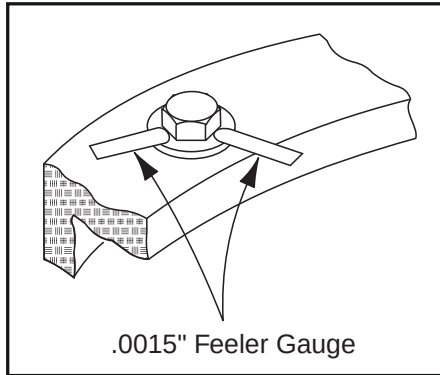

Figure 3-52. Swing Bearing Feeler Gauge Check
12. Tighten bolts to an initial torque of 130 ft-lb (176 Nm) following torque sequence shown in Figure 3-52. Tighten to a final torque of 190 ft-lb (257 Nm) following same sequence.
1. Fully retract boom and elevate to 70 degrees (full elevation). Try and insert a 0.0015" feeler gauge between bolt head and hardened washer at positions shown in Figure 3-52., Swing Bearing Feeler Gauge Check.
3. Try and insert a 0.0015" feeler gauge between bolt head and hardened washer at position indicated by arrow in Figure 3-52., Swing Bearing Feeler Gauge Check.